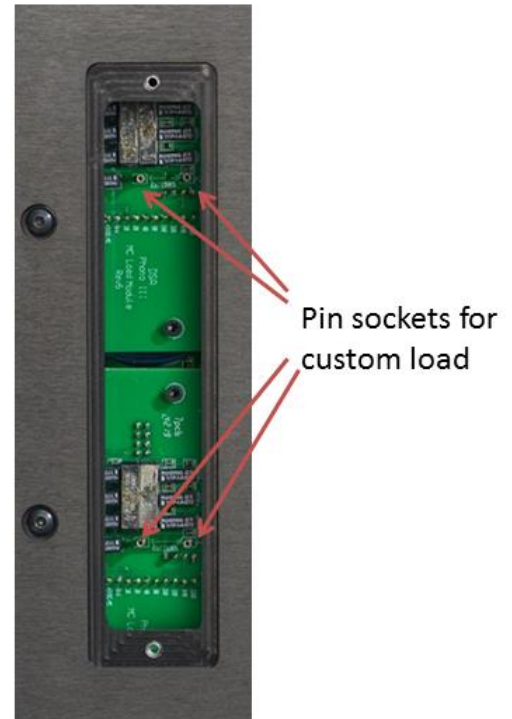

Figure 5 – Layout for Installing Custom Load
- Using a small light look down into the unit and what you will see is shown in **Figure 5**. The two circuit boards operate the internally-controlled MC cartridge loading. On each board is a pair of pin sockets, shown by the red arrows, for a custom resistor or capacitor to be inserted. (No soldering is required.)
- The other is a plug-in module that controls the resistive loading for MC cartridges (this module can be seen in Figure 5).